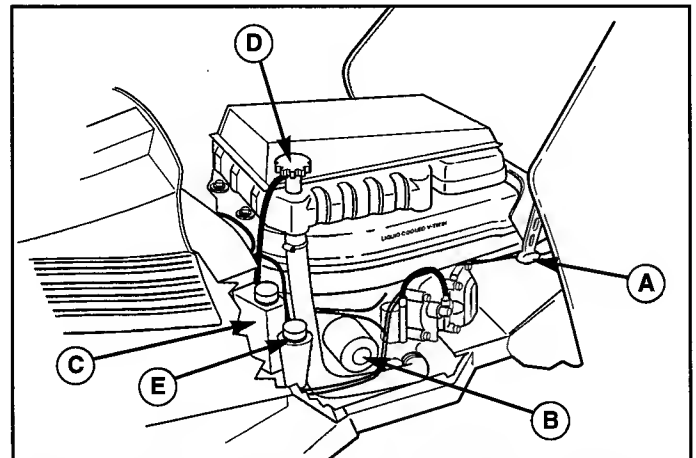

Figure 14. Engine Compartment (View from Right)
1. Check coolant in the overflow reservoir (C, Figure 14). Coolant should be green in color and coolant level should be between the "I" and "L" marks on the tank.
2. If the coolant level is below the "L" mark on the overflow reservoir, then with the engine off and cool, remove the radiator cap (D, Figure 14). Add coolant (50/50 mixture of ethylene glycol and distilled water), slowly fill the tank to the bottom of the radiator cap filler neck.